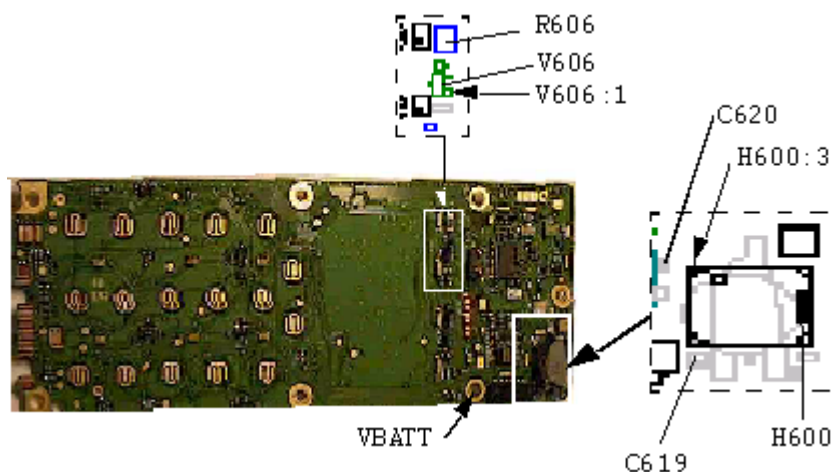

Fig. 9.1
Open the phone and check for liquid damages. If the buzzer is faint, check the buzzer gasket at the top of the front. If it's squeezed, mounted wrong, covering part of or entire opening, replace the front and try again. Check for bad solderings at the buzzer, H600 (class A, fig. 9.1). If the solderings are correct, replace the buzzer. Assemble the phone and try the buzzer again as in 9.1. If the fault is fixed, send the phone through the ordinary flow.
If the fault remains, disassemble the phone. Give the board power and start it up. Measure the voltage at H600 pad 3 (4.8V). If the voltage is faulty or missing, measure the voltage at both sides of R606 (4.8V, fig. 9.1).
- * If it's correct, replace C619 and C620 (both of them class A and in fig. 9.1).
- If the voltage is missing at both sides of R606, measure VBATT (4.8V, fig. 9.1).
* If it's ok, measure the resistance from it to V606 pin 1 (1.0 kohms, fig. 9.1).
- If there is no VBATT at the LEDs, check at the VBATT connector (fig 9.1).
- If there is VBATT voltage at the LEDs, measure the voltage at V613 pin 1 (fig 9.1, ~1.7V while LEDs are supposed to be lit).